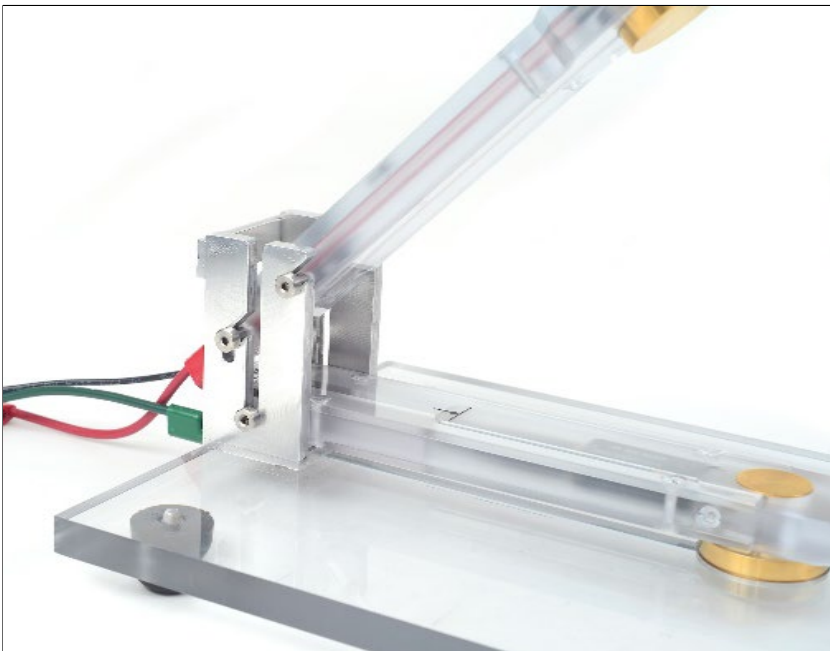

Figure 11. The Discharge Arm sitting up right
2. Lift the **Discharge Arm (C)** and place it into the notch of the **Bracket (E)** (Figure 11).